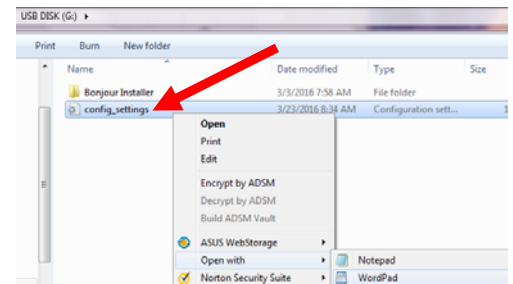

Figure 1
- Power to Kitchen Connect (KC) remote communication board
1. On the initial installation, the service tech will have to configure the parameters listed in the config_settings.ini file on the USB drive by opening the file with Notepad++ utility available in Microsoft PC based machine. Right click on the file and Open with Notepad to edit the file (see Figure 1).